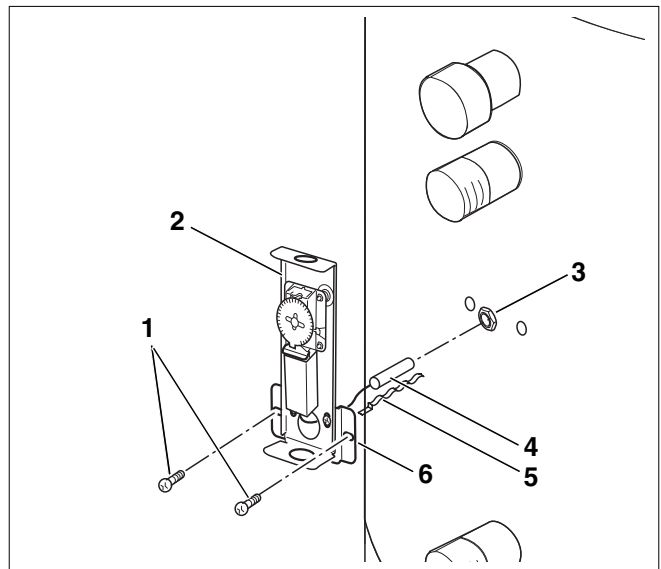

Fig. 9 Installing Aquastat
- Remove cover from Aquastat (Fig. 9, **Item 2**). Slacken the hex bolt on the top.
- Screw retainer (Fig. 9, **Item 6**) on Aquastat with two self-tapping screws (remove existing fastener if necessary).
- Insert temperature capillary with clamping spring and possibly blank spacers (Fig. 9, **Item 4 and 5**) fully into the sensor well (**M**) (Fig. 9, **Item 3**).
- Screw Aquastat (Fig. 9, **Item 2**) to DHW tank with two self-tapping screws (Fig. 9, **Item 1**). First drill two small holes in the cover beside the M1 connection.